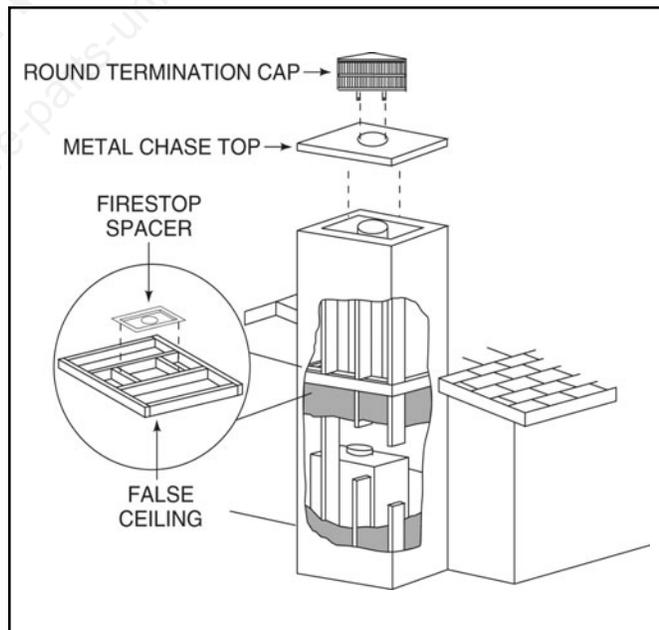

Figure 20
- e. In cold climates, the walls of the chase should be insulated to the level of the false ceiling as shown in Figure 20. This will help prevent heat loss from the home around and through the fireplace.